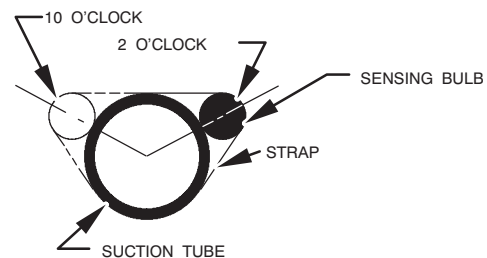

Fig. 26 – Position of Sensing Bulb
8. Attach TXV bulb to horizontal section of suction line using clamps provided. Insulate bulb with field-supplied insulation tape. See Fig. 26 for correct positioning of sensing bulb.
9. Reinstall TXV support clamp (removed in item 3).
10. Attach TXV bulb to vapor tube inside cabinet, in same location as original was when removed, using supplied bulb clamps (nylon or copper). See Fig. 26 for correct positioning of sensing bulb.
clamps (nylon or copper). See Fig. 26 for correct positioning of sensing bulb.